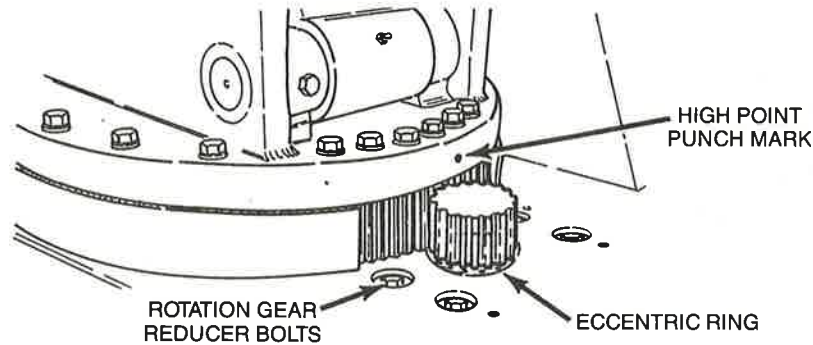

Figure 22. Adjustment of Gear/Pinion Lash
- B. Start machine and rotate mast until high point on gear is in alignment with pinion (See Figure 22). (**Note:** High point is punch-marked on edge of mast base plate after factory assembly). Lash at this position between gear and pinion should be between 0.005 and 0.015 (See Figure 22).